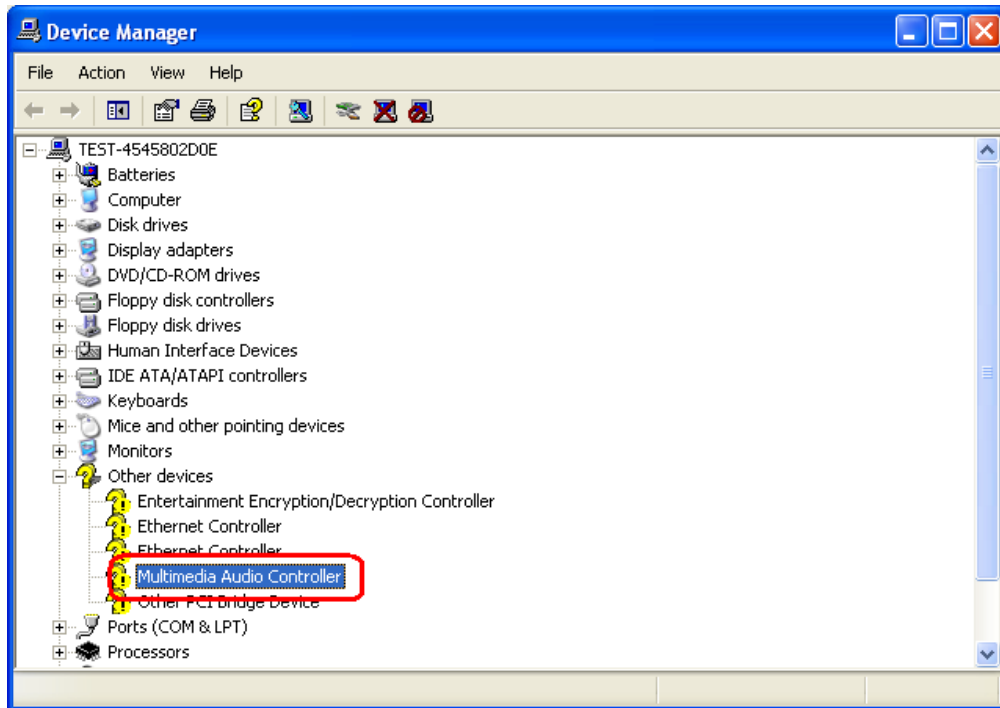

Figure 7-16: Audio Controller (Device Manager)
Step 2: Right-click the **MULTIMEDIA AUDIO CONTROLLER** option listed under **OTHER DEVICES** in **Figure 7-16**.